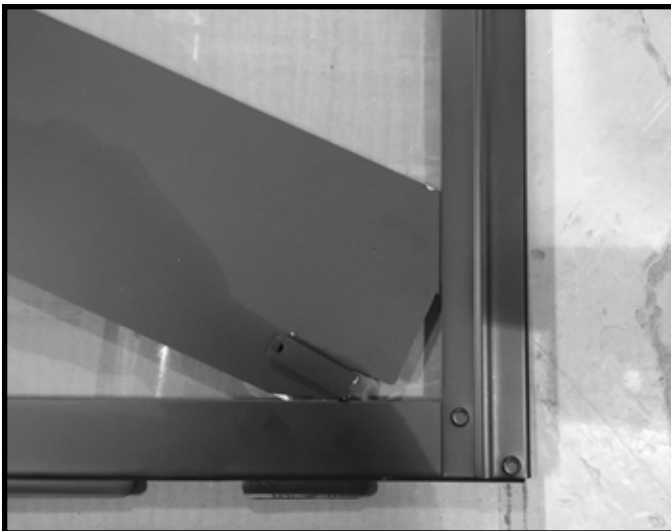

Figure 4. Insert Vanity Panel into Corner
5. Position one side of vanity panel on a bottom corner of the glass assembly at an angle between the glass and the frame of the decorative front as shown in Figure 4 and Figure 5.